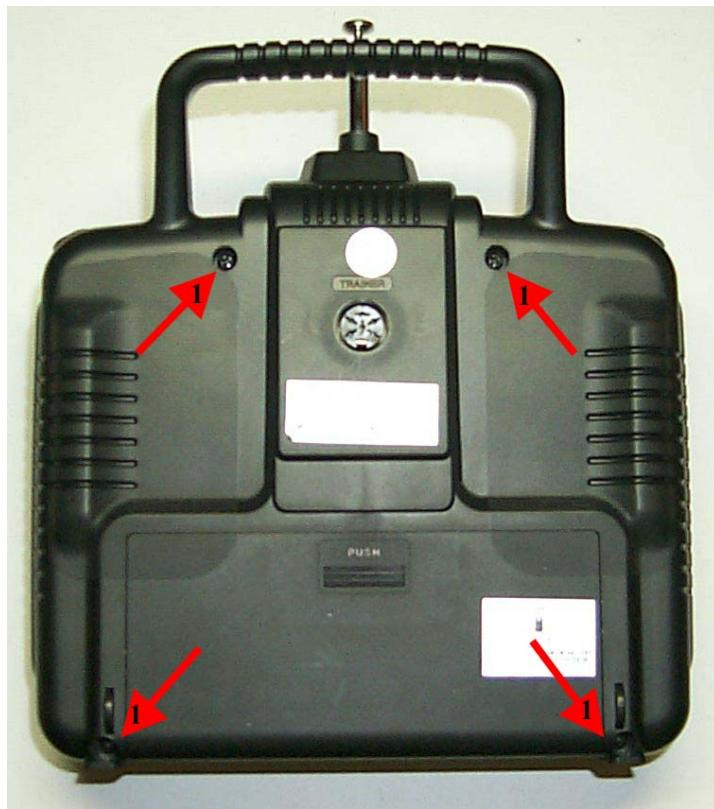

Figure 2 – The screws holding the case together
Remove the back of the transmitter. You do not need to open the battery compartment or remove the batteries. Remove the four screws indicated by the red arrows (1) in figure 2 above and the back will come off. Note that the battery, inside the battery compartment, is connected to the main circuit board by two wires. Unplug the battery wires from the main circuit board and set the case back and batteries aside.